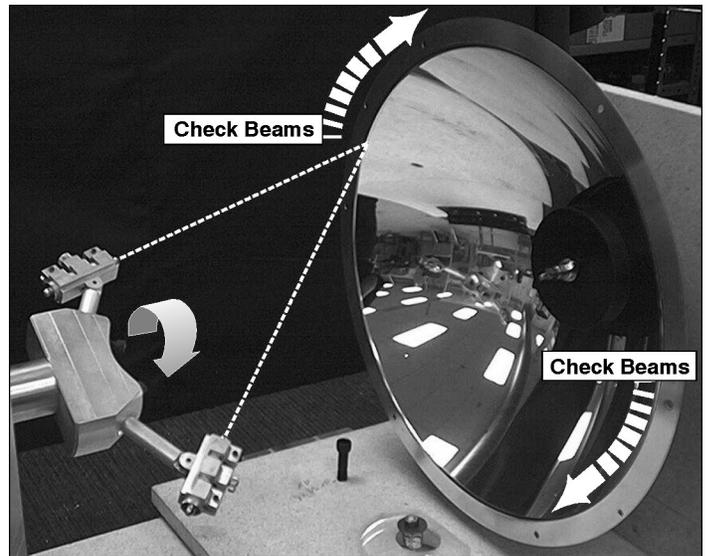

Figure 2.18. Check tilt of the reflector (SIMULATION)
- Turn on both lasers and converge the beams on one spot very near the lip of the reflector. Observe the size/shape of this spot while rotating the jig fully—if the spot size/shape remains constant as it travels along the complete circumference of the reflector, the reflector is properly “aimed” along the optical axis (i.e., it is not tilted). See Figure 2.18.